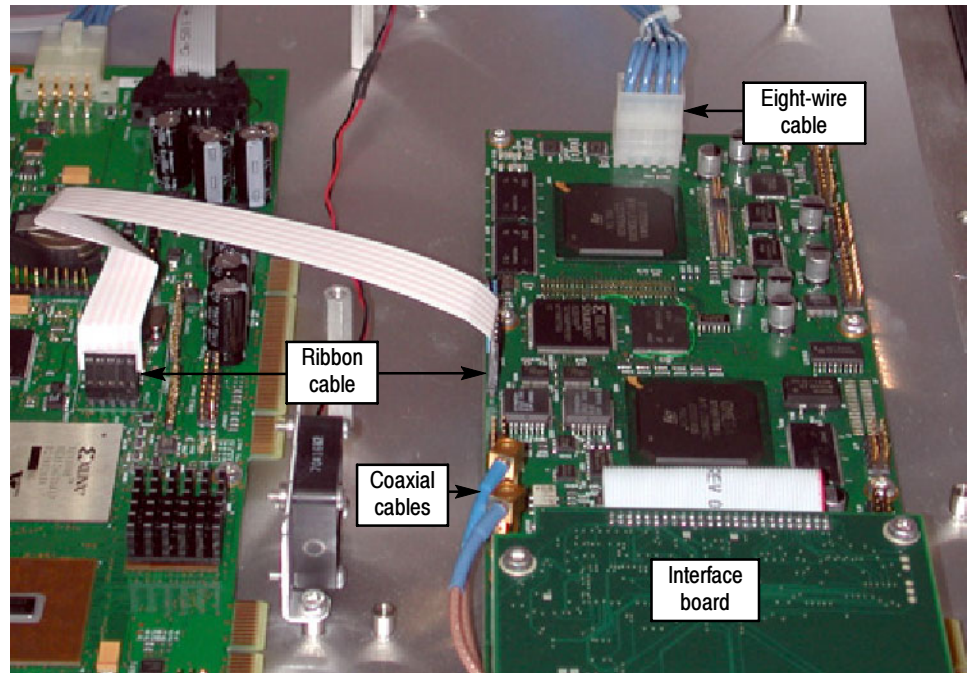

Figure 24: Cable connections for QAM (Annex B, new version), 8PSK, 8VSB, and COFDM interface boards
- Connect the ribbon cable from the connector labeled J14 on the interface board to the connector labeled J750 on the TS Processor board. See Figure 24 for cable locations.